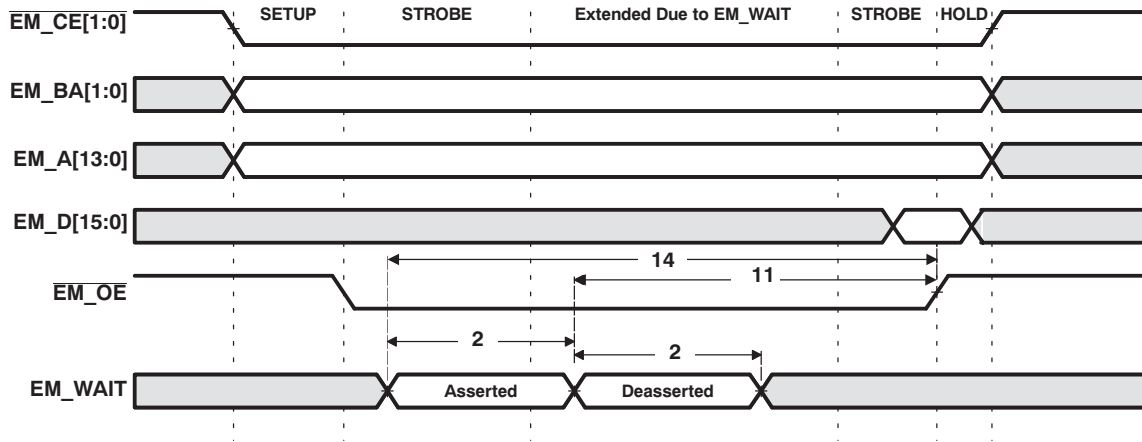
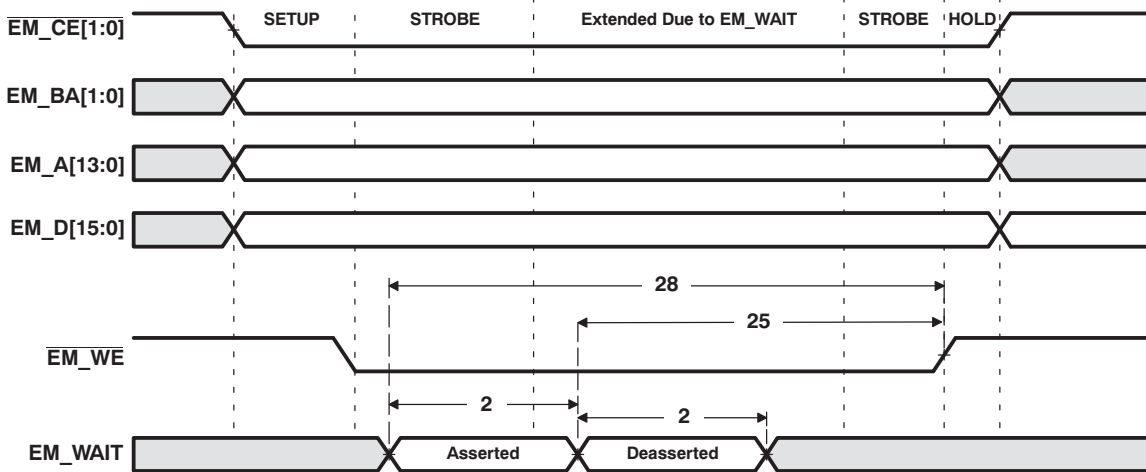

Figure 5-16. EM\_WAIT Read Timing Requirements
Figure 5-17. EM\_WAIT Write Timing Requirements
- (1) E = PLLC1 SYSCLK2 period in ns. SYSCLK2 is the EMIF peripheral clock. SYSCLK2 is one-fourth the PLLC output clock. For example, when PLLC output clock = 432 MHz, E = 9.259 ns. See Section 3.5 for more information.
- (2) Setup before end of STROBE phase (if no extended wait states are inserted) by which EM\_WAIT must be asserted to add extended wait states. Figure 5-16 and Figure 5-17 describe EMIF transactions that include extended wait states inserted during the STROBE phase. However, cycles inserted as part of this extended wait period should not be counted; the 4E requirement is to the start of where the HOLD phase would begin if there were no extended wait cycles.